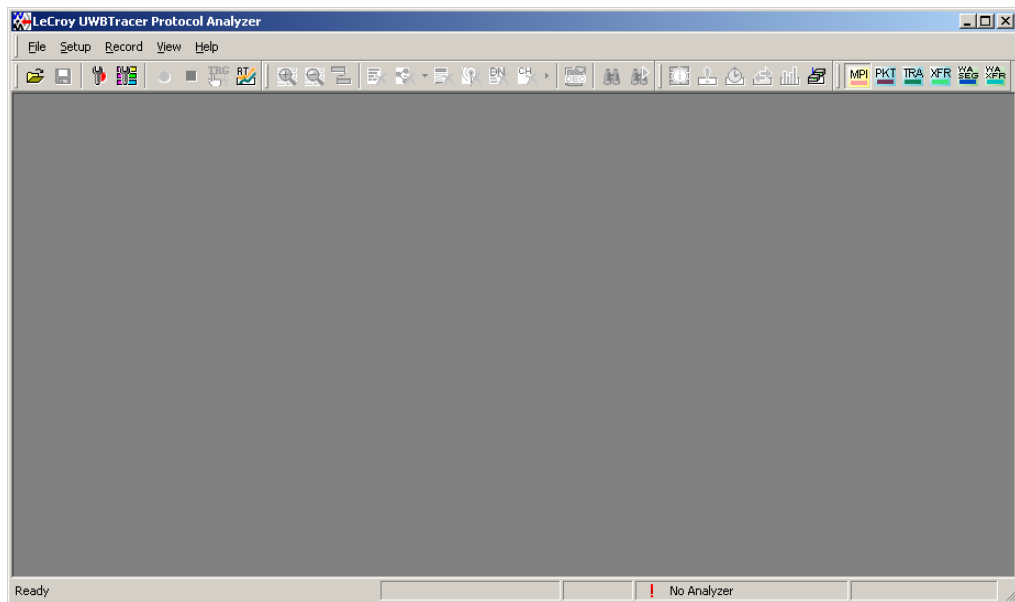

Figure 3.1 UWBTracer Main Window
Step 1 Select **Start > Programs > CATC > LeCroy UWBTracer** to display the application main window (Figure 3.1).